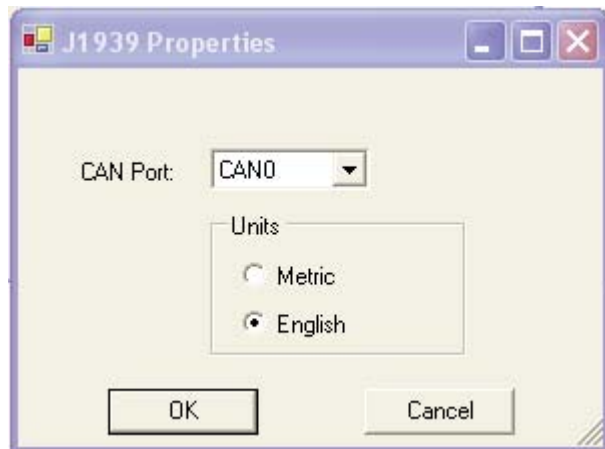

Figure 15.2
7. Click the **PROPERTIES** button. The J1939 Properties dialog will open. This dialog is used to configure the J1939 Communications on the target. See Figure 15.2.